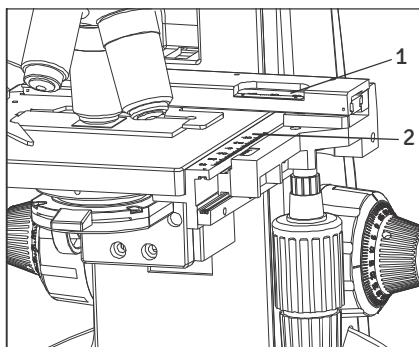

Fig. 19
1. The horizontal coordinate can be read at position (1) on the specimen holder. (fig. 19).
2. The vertical coordinate can be read at the index line (2).